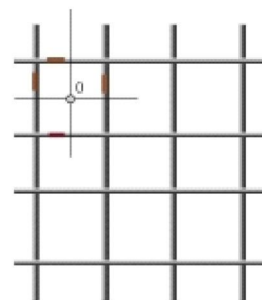

Fig. 2.7 Pre-Scanning
1) Rebar Location (Fig. 2.7, also see video)